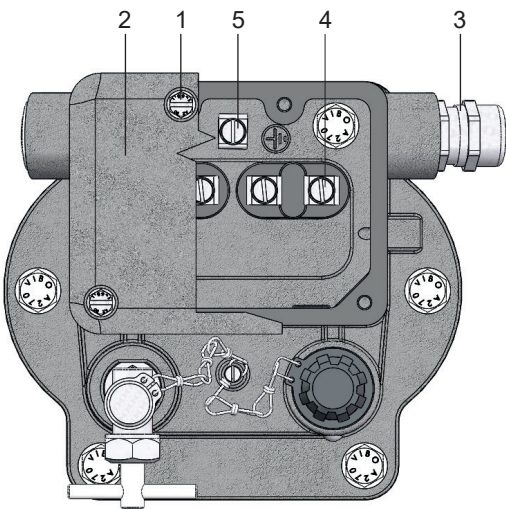

Fig. 14 – Electrical connection
- Remove the screws (Fig. 14/ no. 1).
- Remove the cap (Fig. 14/ no. 2).
- Insert the lead through the cable gland (Fig. 14/ no. 3).
- Connect the lead to the terminal studs (Fig. 14/ no. 4) (max. tightening torque: 3 Nm).
- Tighten the screws (Fig. 14/ no. 1) (max. tightening torque: 3 Nm).
Connect the protective conductor (green-yellow insulation) to the earth terminal (Fig. 14/5) (max. tightening torque: 3 Nm).